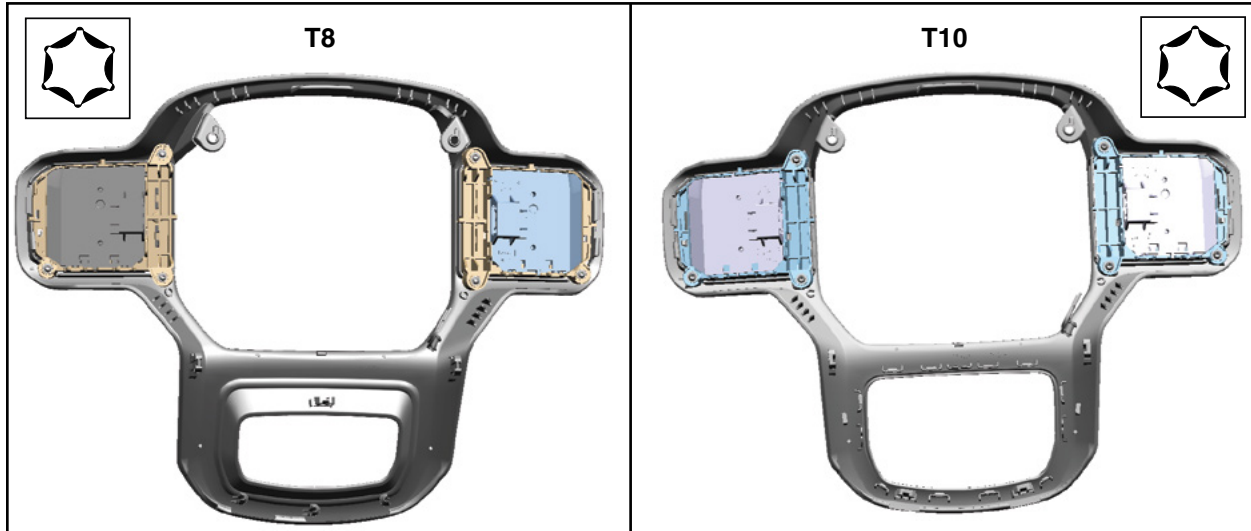

FIGURE 17
4. Remove the retainers and the steering wheel multifunction switches. See Figures 17 and 18.